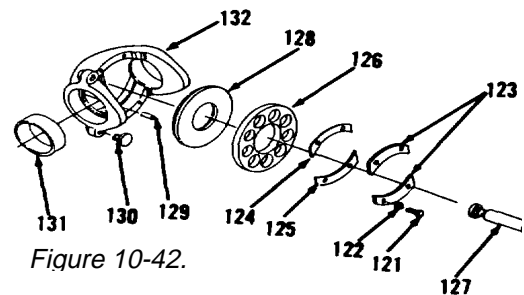

Figure 10-42.
- 59. Remove four bolts (121), washers (122), two bearings (123), shim(s) (124 and 125) and plate (126, Figure 10-42).
- 60. Remove nine pistons (127), plate (128), dowel (129), two stops (130) and bearing cups (131) from swashplate (132).